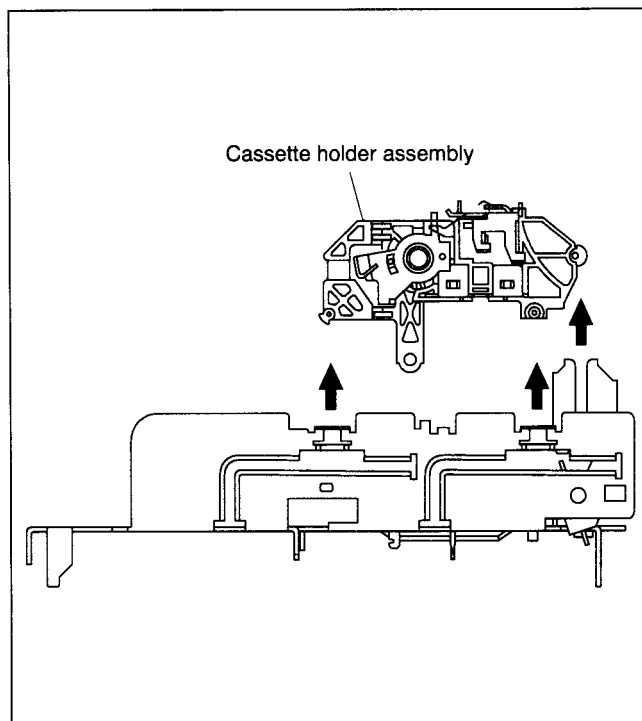
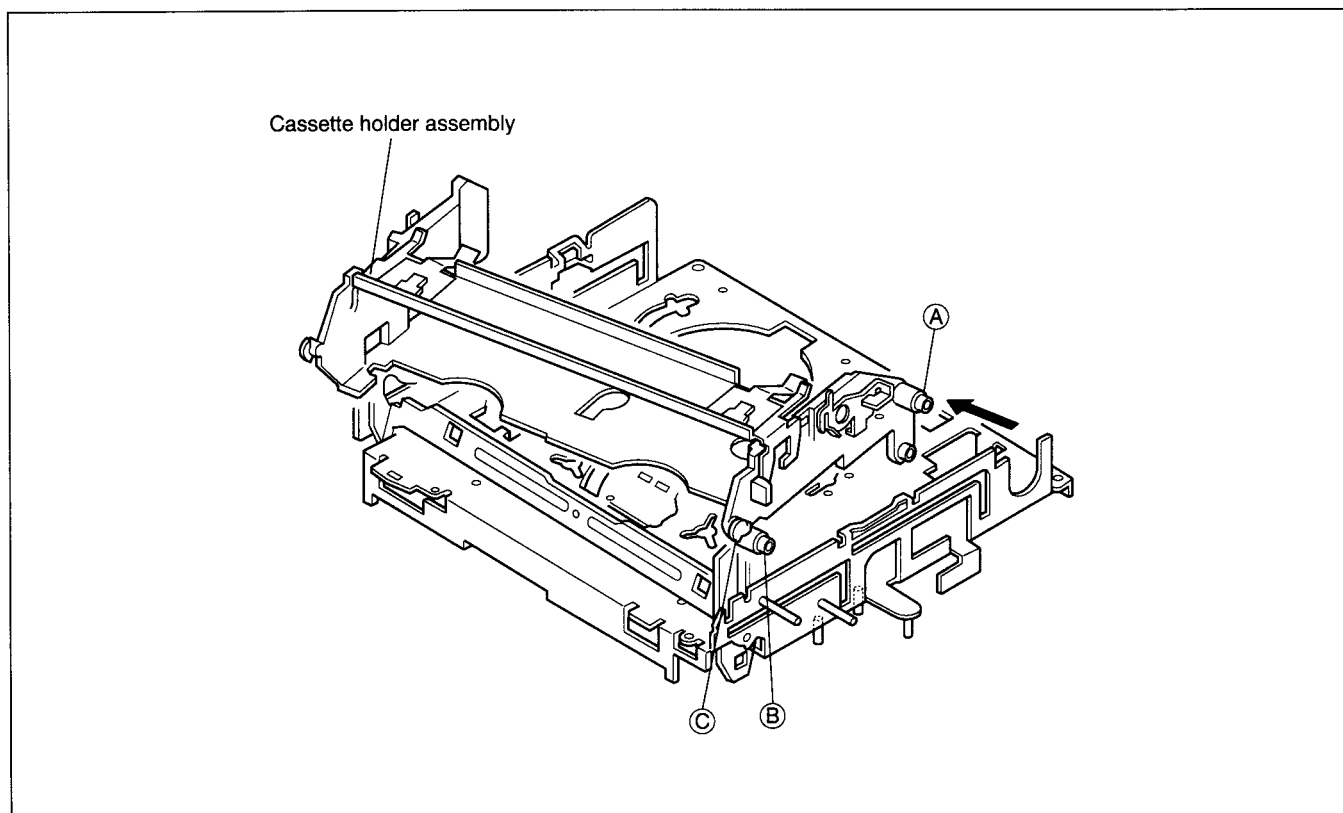

Fig. 2-2-5
Fig. 2-2-6
(5) While holding the left side of the cassette holder, lift the cassette holder assembly so that the three legs on the left side are all released. Then pull the legs ① and ② on the right side out of the rail and also pull up the leg ③. (See Fig.2-2-5, Fig.2-2-6)